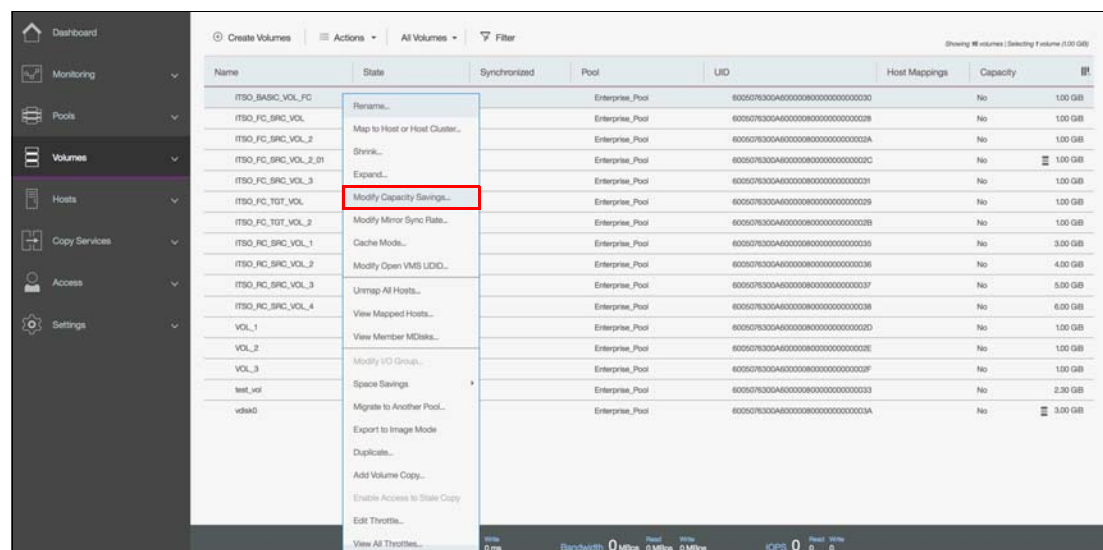

Figure 9-32 Modifying Capacity Settings
1. Right-click a particular volume and select **Modify Capacity Settings**, as shown in Figure 9-32.